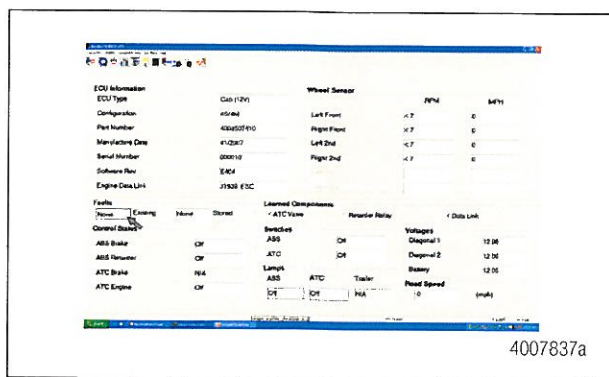

Figure 27
12. When the ignition is turned back on, check that no active or stored faults are logged in the ECU and the ABS and ATC/RSC/ESC warning lamps are off. Figure 27.